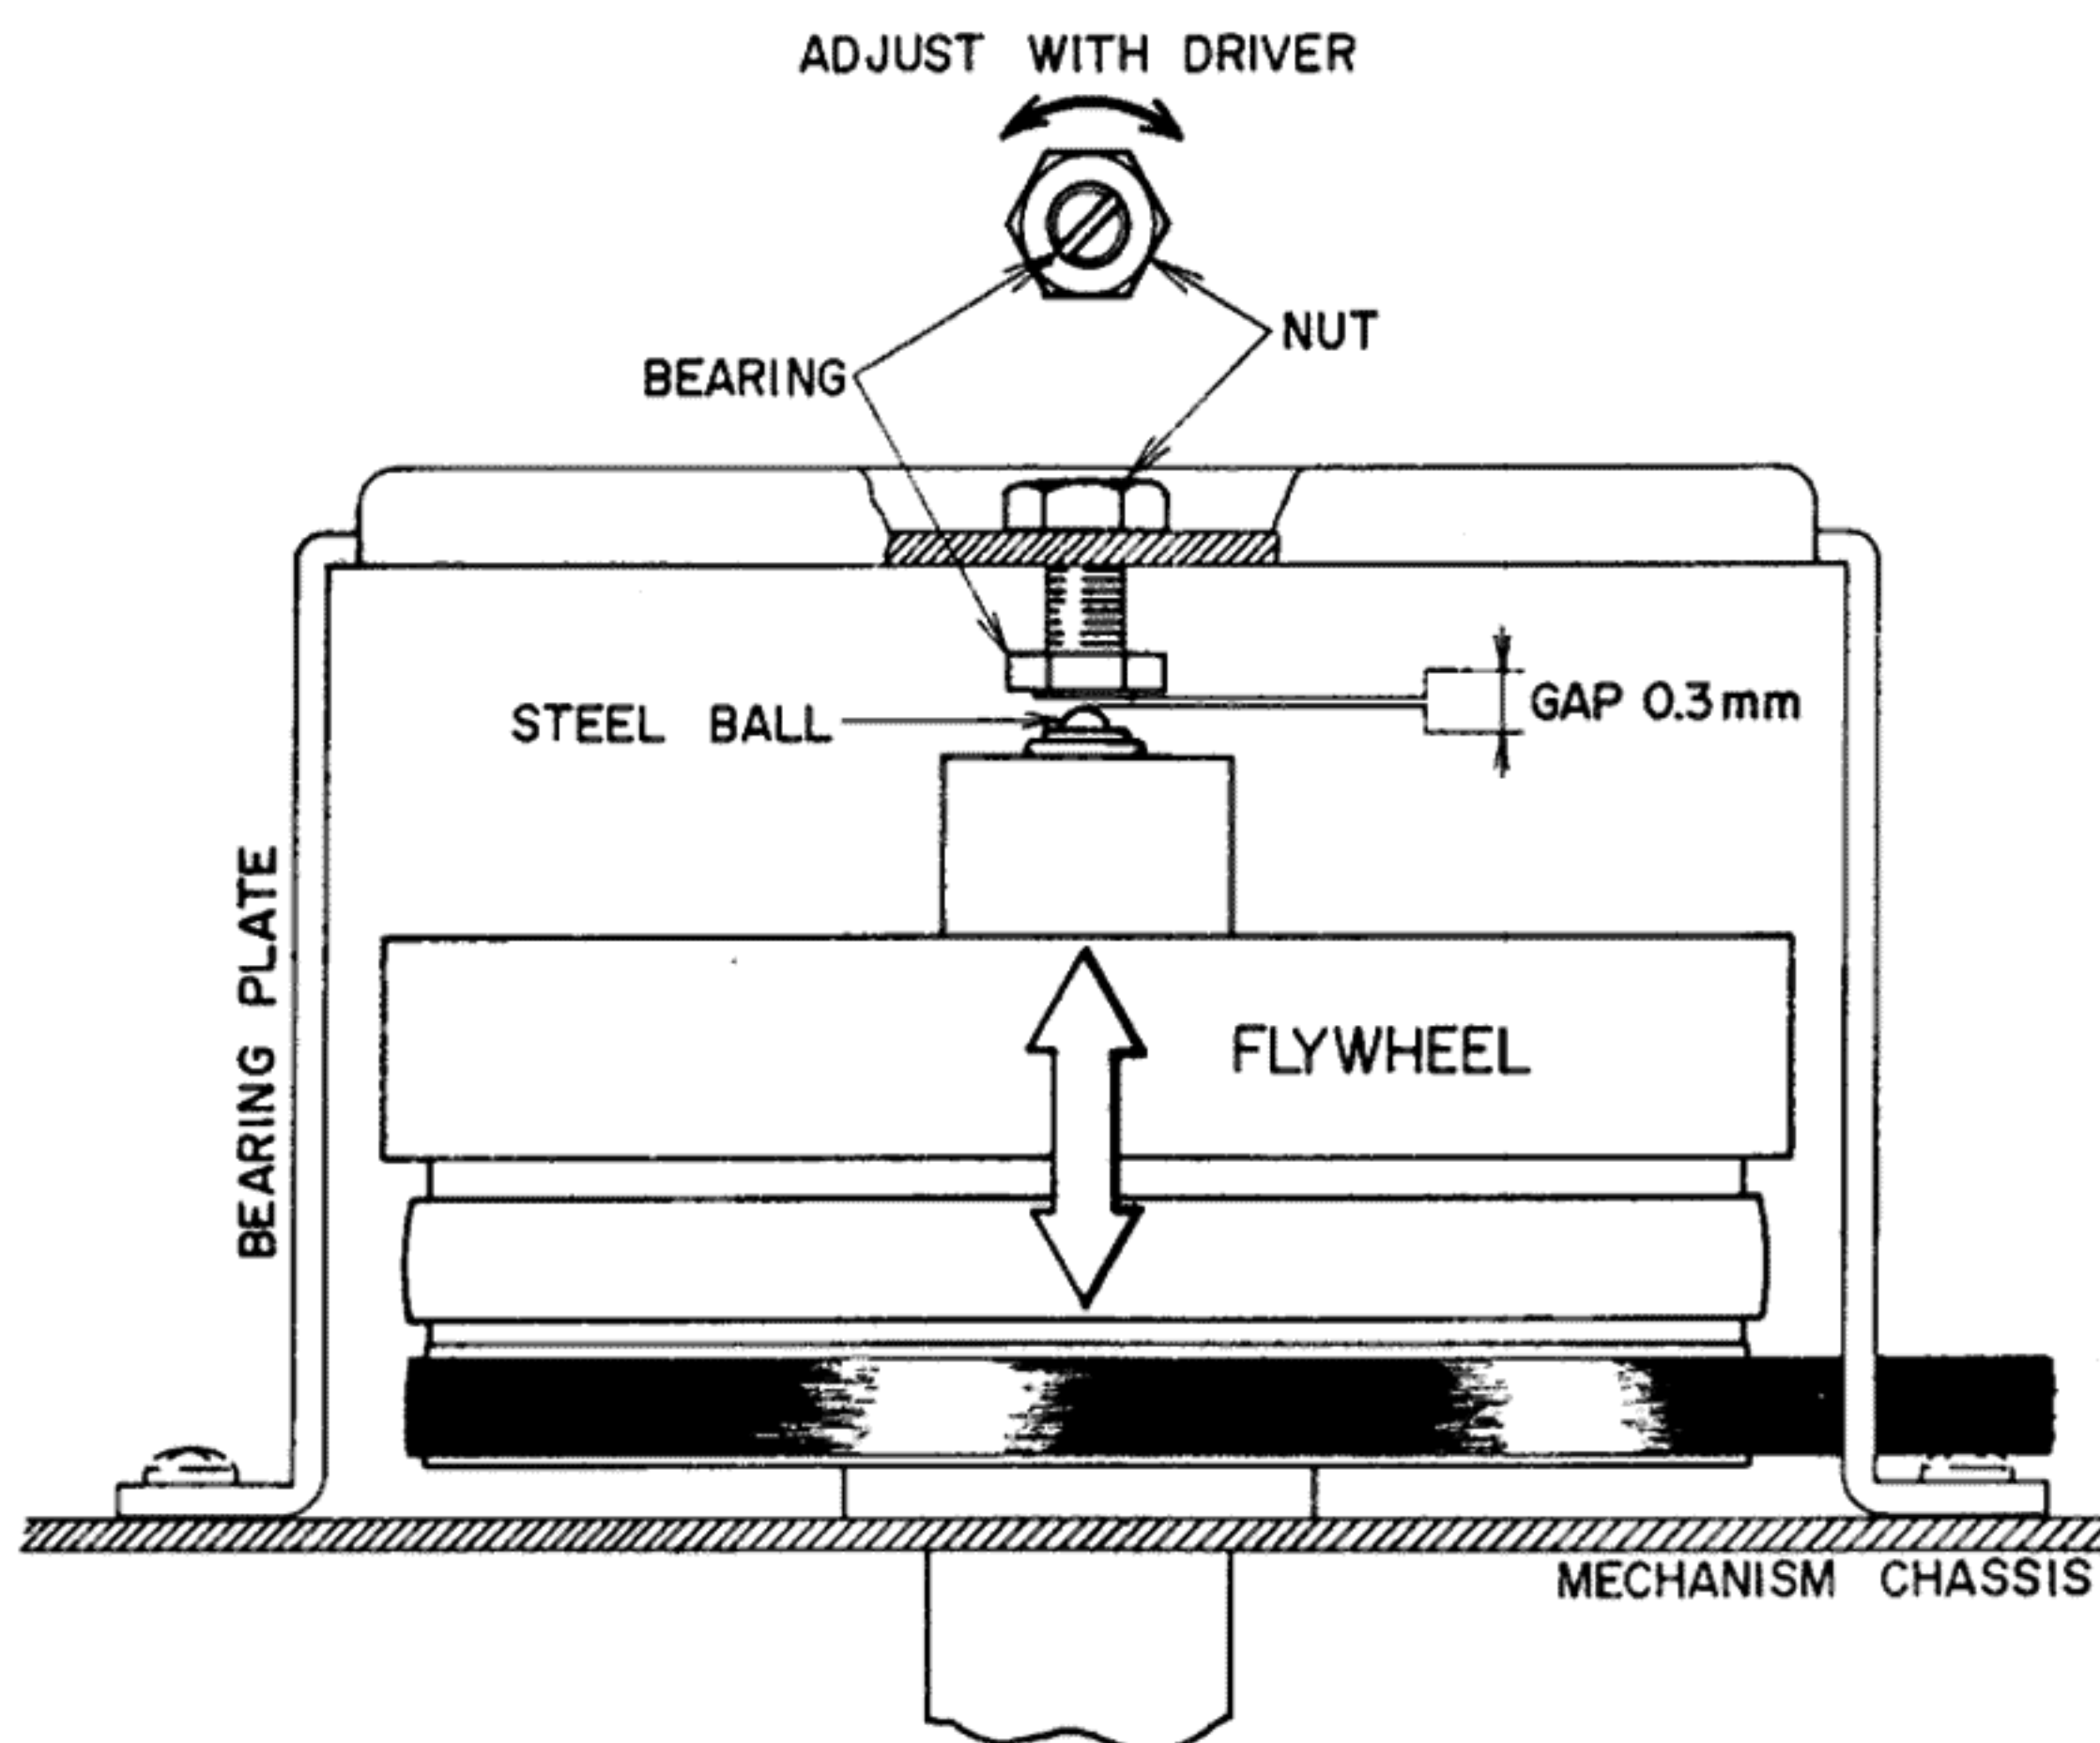

Fig. 13
5. FLYWHEEL LOOSE PLAY ADJUSTMENT (See Fig. 13)
With a minus screw driver, turn bearing to left and right and adjust so that when the flywheel is moved as indicated by the arrow mark in the figure, the gap between the steel ball and flywheel supporting plate is 0.3 mm as shown in Fig. 13. Fix at this position with nut.